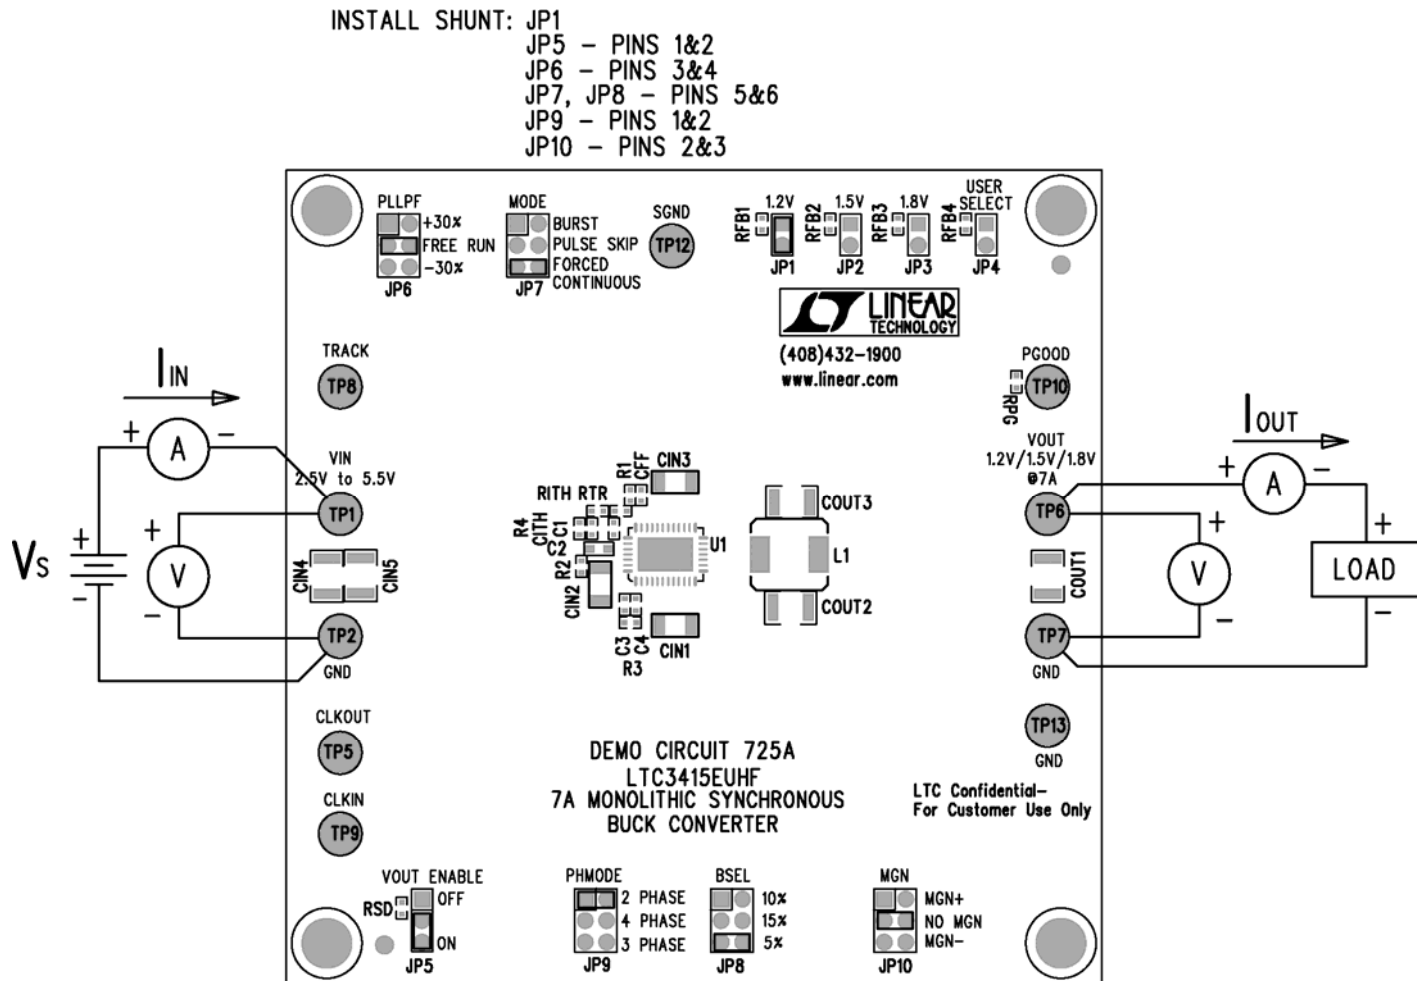

Figure 1. Proper Measurement Equipment Setup
Demonstration Circuit 725 is easy to set up to evaluate the performance of the LTC3415. For proper measurement equipment configuration, set up the circuit according to the diagram in **Figure 1**. Before proceeding to test, make sure the jumper shunts are in the appropriate header according to the legend in **Figure 1**, except for one exception: insert jumper JP5 shunt into the off (upper) position, which connects the RUN pin to ground (GND), and thus, shuts down the circuit.
1. With the DC725 set up according to the proper measurement and equipment in **Figure 1**, apply 3.3V at V_{IN} (Do not hot-plug V_{IN} or increase V_{IN} over the rated maximum supply voltage of 5.5V, or the part may be damaged.). Measure V_{OUT} ; it should read 0V. If desired, one can measure the shutdown supply current at this point. The supply current will be approximately 10 μA , or less, in shutdown.